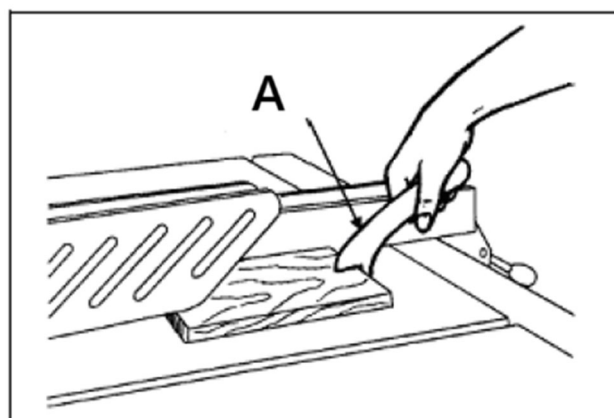

Fig. 17
6. Secure longer workpieces to prevent flipping after cutting, using a table extension if necessary (Fig. 17).